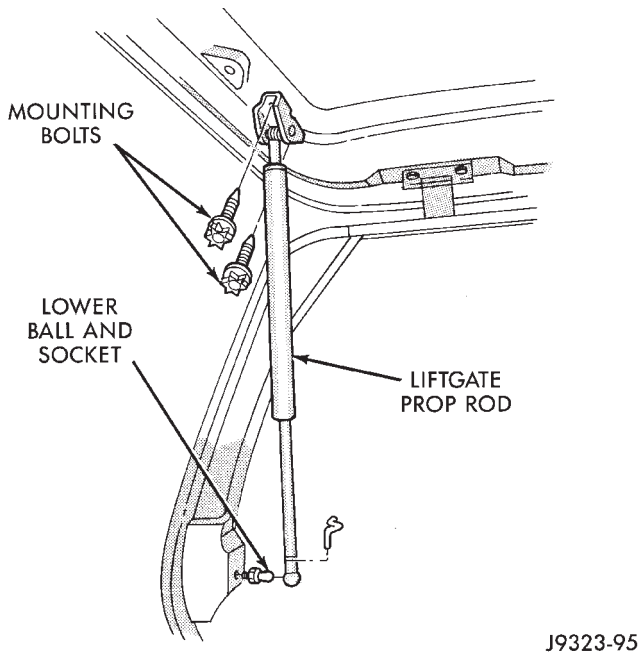
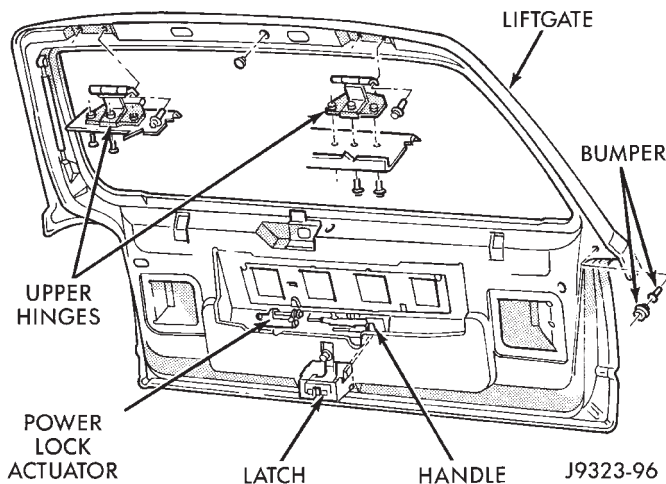

Fig. 23 Support Rod
Fig. 24 Liftgate Components
- (3) Remove retainer clips that secure support rod cylinders to ball studs (Fig. 23).
- (4) Remove support rod cylinders from ball studs (Fig. 23).
- (5) Remove upper support rod retaining screws (Fig. 23). Remove support rods.
- (6) Disconnect wire harnesses and washer hose from liftgate.
- (7) Remove hinge screws at liftgate (Fig. 24).
- (8) Remove liftgate from vehicle.
- (2) Remove hinge screws at roof panel (Fig. 24).
(3) Remove hinge screws at liftgate (Fig. 24). Remove hinge from liftgate (Fig. 24).
(1) Position gaskets, shim and hinge on liftgate and roof panel (Fig. 24).
(2) Install and tighten hinge screws at roof panel (Fig. 24) to 9 N•m (7 ft-lbs) torque.
(3) Install hinge screws at liftgate (Fig. 24). Tighten screws to 9 N•m (7 ft-lbs) torque.